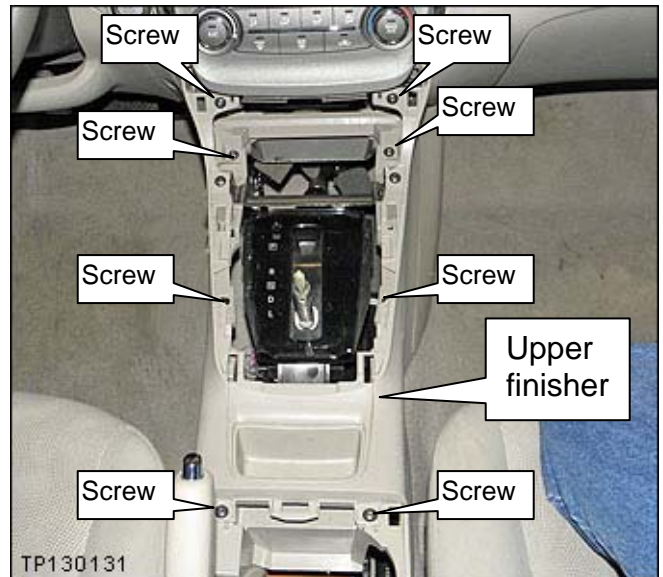

Figure 6
- Remove the 8 screws shown in Figure 6.